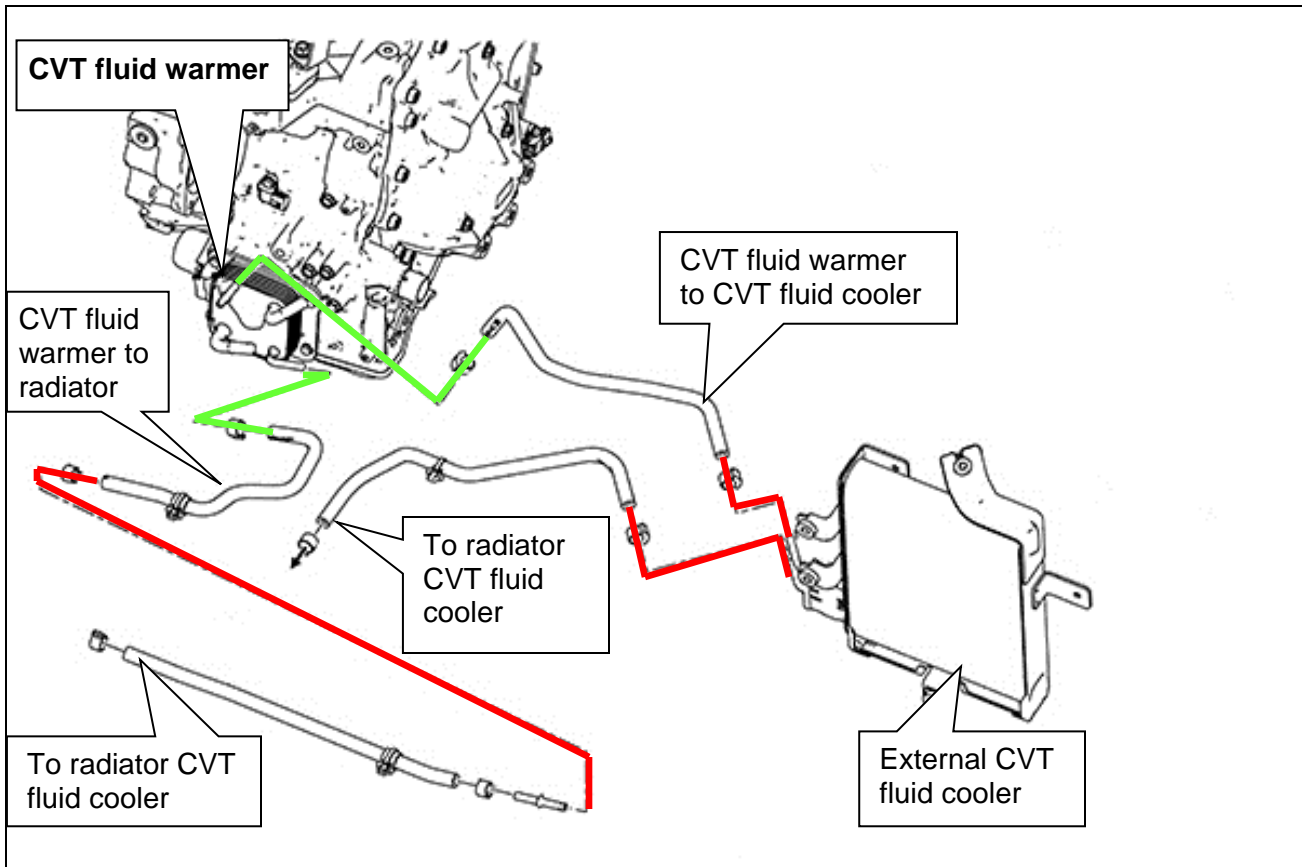

Figure 2E
- Disconnect the CVT fluid inlet and outlet rubber hoses from the CVT fluid warmer (Figure 2E) and discard the spring clamps.